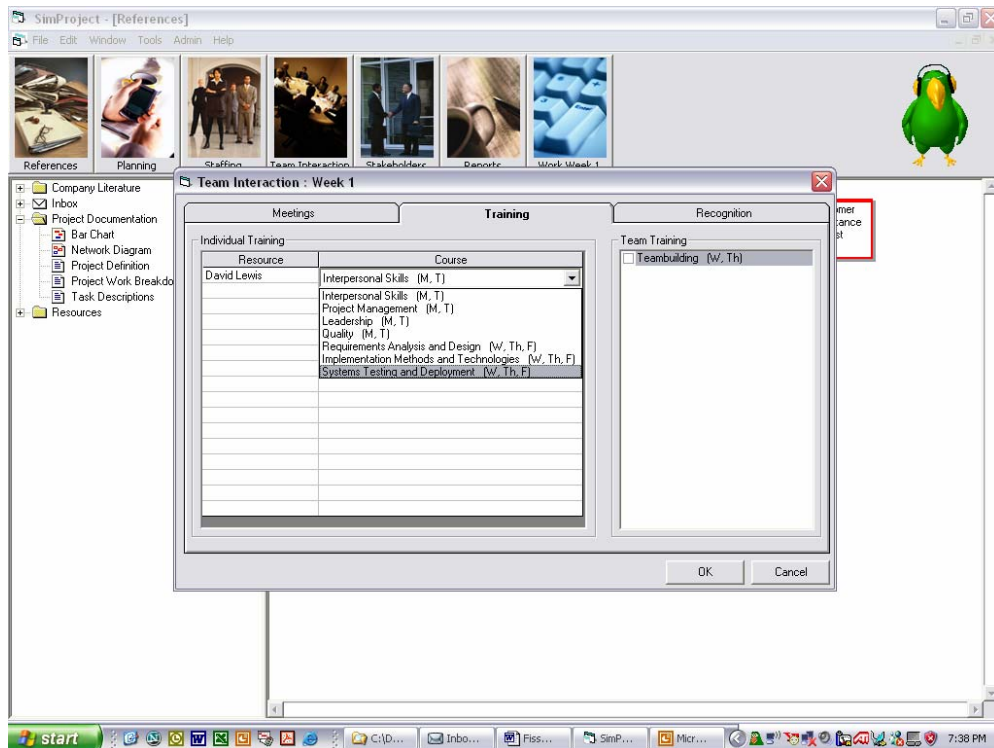

Figure 11 - Training Decisions by Staff and Class
- Training – select the individual or team and the specific training (Figure 11)